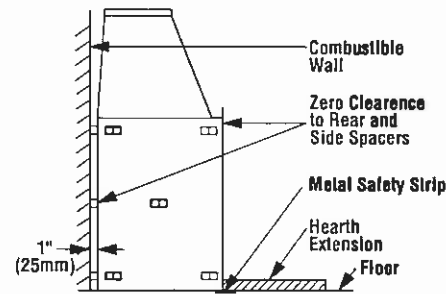

Figure 4
**Step 2.** Insert the metal safety strips, packaged with the fireplace, beneath the fireplace as illustrated (Figures 4 and 5). The safety strips should overlap 1" (25 mm) for continual coverage of the floor.